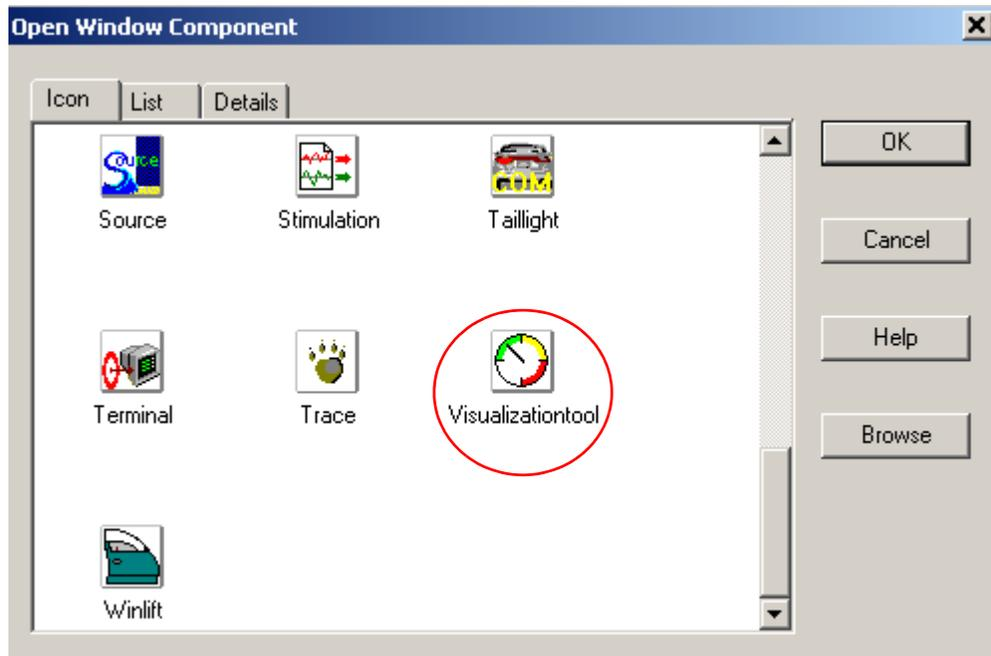

Figure 34. Open Window Component—Visualizationtool
- The following window appears (Figure 34). Scroll down until you see the **VisualizatoinTool** icon. Highlight it and click the **OK** button.